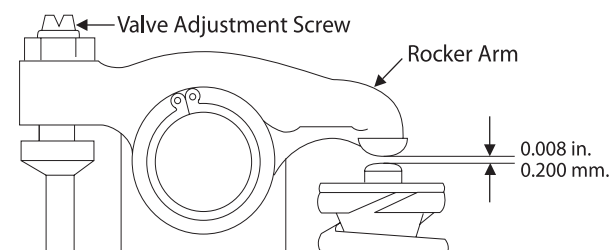

Figure 6: Valve Adjustment
4. Loosen the lock nut and adjust the clearance between the rocker arm and valve guide of both the intake and exhaust valves with the adjustment screw (Figure 6). Clearance on both intake and exhaust valves should be 0.008 in. (0.2 mm).